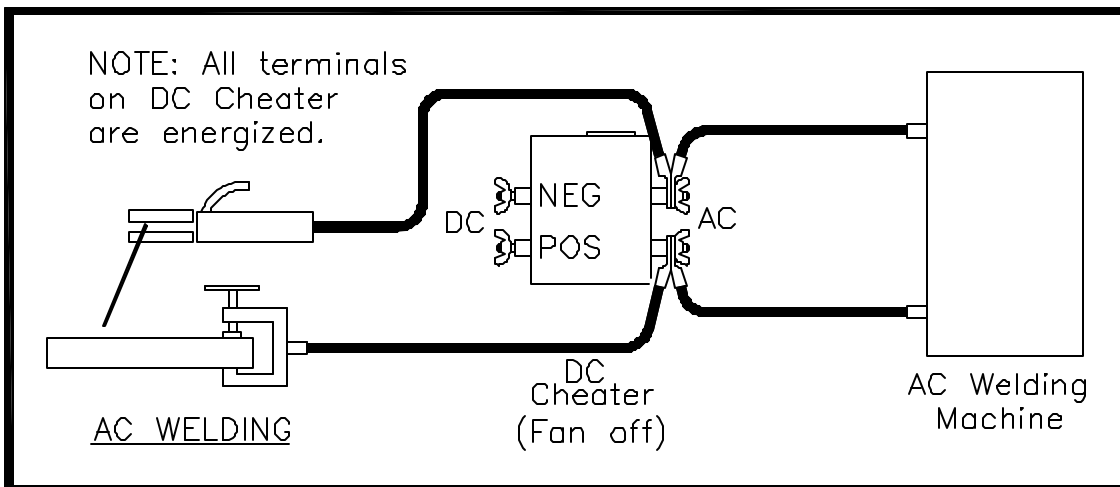

Figure 3
SET-UP FOR AC WELDING: (See figure 3)
- Disconnect the cables from the DC output studs of the DC Cheater and connect the cables together on the AC input studs as shown in figure 3. This takes the DC Cheater out of the circuit and the studs are just used to reconnect the cables. You may prefer to use bolts for this purpose but then you must insulate the cables.